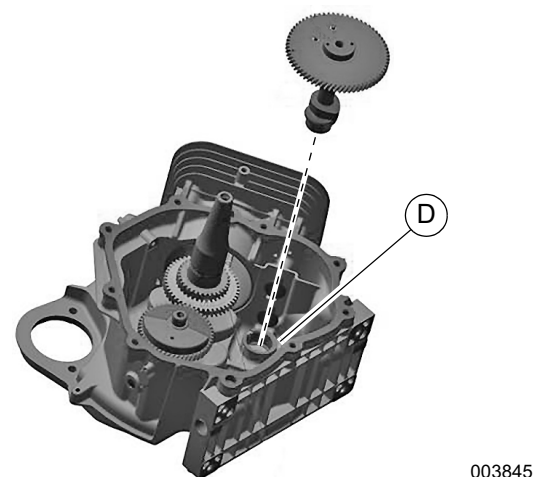

Figure 14-22. Install Camshaft Assembly
2. Verify both tappets are fully recessed in the crankcase. This protects camshaft lobes (C) from damage during cam installation.
3. See Figure 14-22. Apply assembly lube to camshaft lobes and case side bearing journal (D). Install camshaft assembly in crankcase.